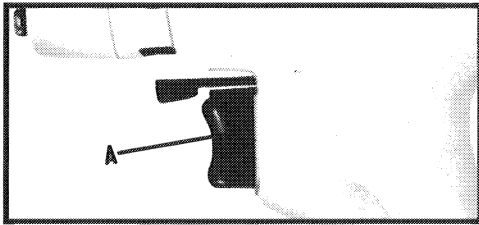

Fig. 2
3. Squeeze trigger switch (A) Fig. 2, to start motor. Release trigger to stop motor. On variable speed models, as the trigger switch is squeezed, the drill speed increases.